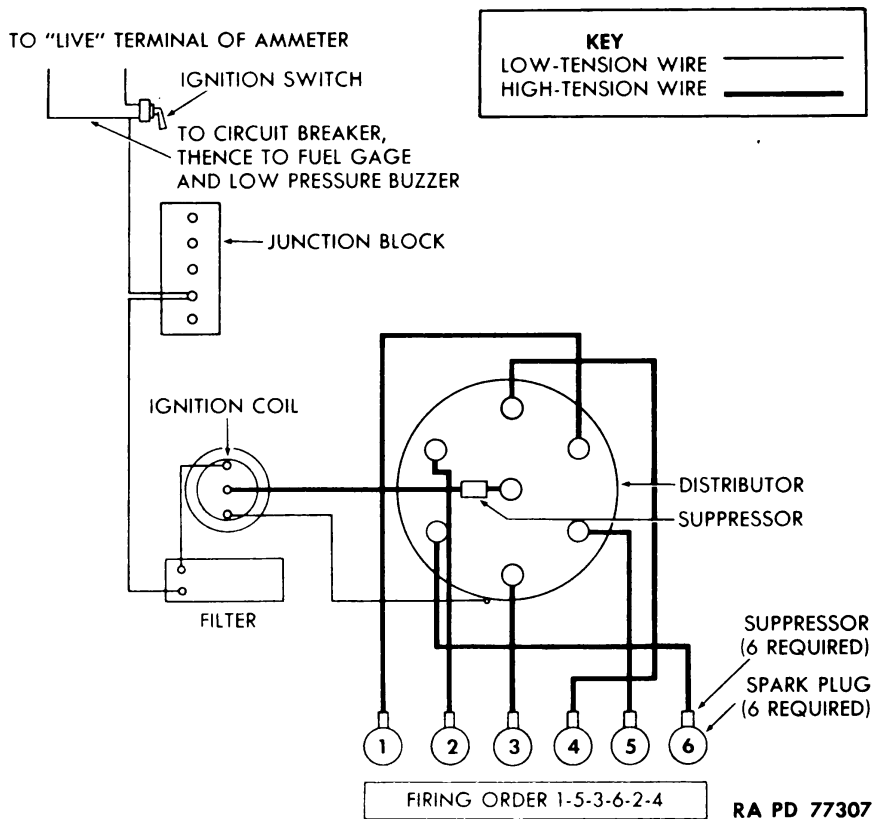

Figure 48 — Wiring Diagram of Ignition System
a. This truck uses the storage-battery type 6-volt ignition system. Components of the system are the ignition coil, condenser, distributor, spark plugs, ignition switch, and high- and low-tension wiring (fig. 48).